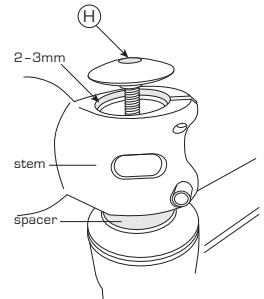

figure 6.
- 13) Fit the stem onto the fork steerer tube and adjust to desired height using spacers as shown in figure 6;
- 14) Mark where you want to cut, check again and then cut the steerer tube using appropriate tools so that the stem sits 2-3mm higher than the top of the cut steerer tube as shown in figure 6;
- 16) Now re-insert the fork into the correctly assembled headset, fit the spacers/stem, place the top cap onto the top of the assembly and screw the [H] bolt into the star nut until it is finger tight as shown in figure 6;